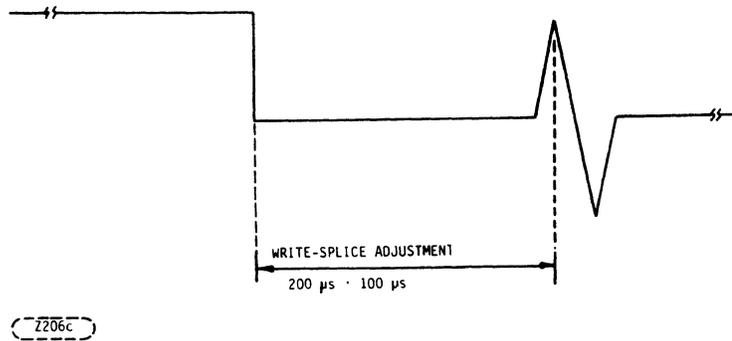
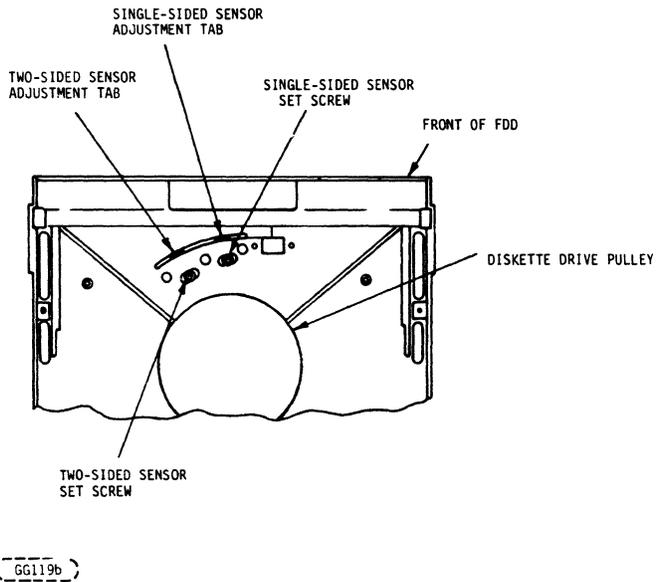

FIGURE 6-4A. WRITE-SPLICE-TIMING
FIGURE 6-4B. SINGLE-AND TWO-SIDED SENSOR ADJUSTMENT MEANS
- e. Adjust the time of the write-splice bit until it measures per  $200 \mu\text{s} \pm 100 \mu\text{s}$ . Refer to Figure 6-4a to adjust the time, loosen the single-sided sensor set screw holding the (single-sided-sensor) phototransistor located on the bottom of the chassis toward the front of the unit, (Figure 6-4b). Using the adjustment tab protruding through the casting, move the phototransistor until the specification is met. Tighten the set screw while observing the scope signal. Verify that the adjustment did not change.